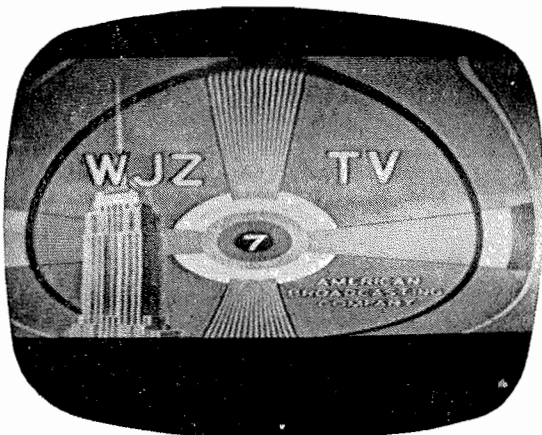
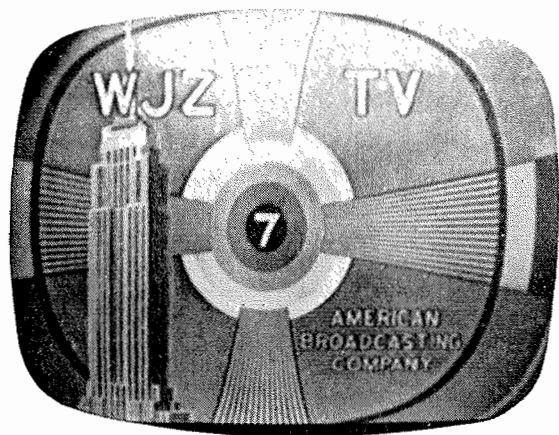

Figure M-1
Figure M-2
*Symptom:* Loss of vertical size as shown in Figure M-1. When the Vertical Size and Linearity controls are adjusted the picture can be made to fill the mask, but the vertical linearity is poor and there is packing at the top of the picture, as shown in Figure M-2.